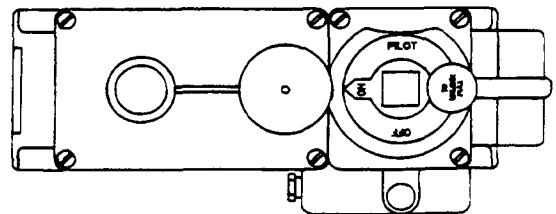

Figure 3
- D. Turn safety valve handle to ON and power switch, if equipped, to ON. Refer to Figure 3.